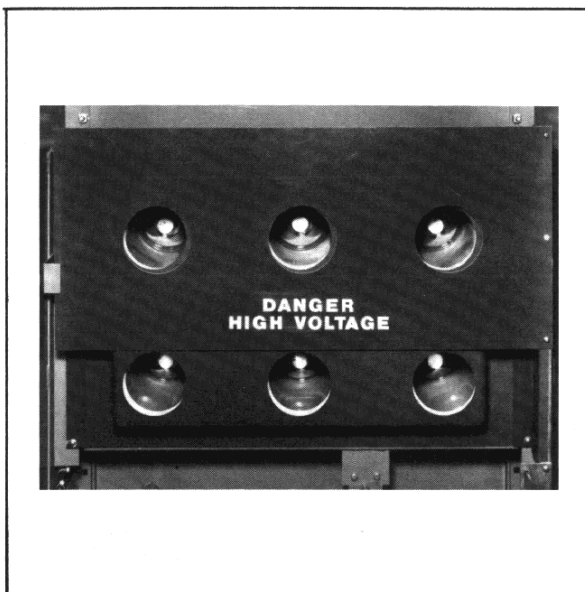

Figure 1-2
1.2.1 Main Disconnecting Contacts (Figure 1-2)